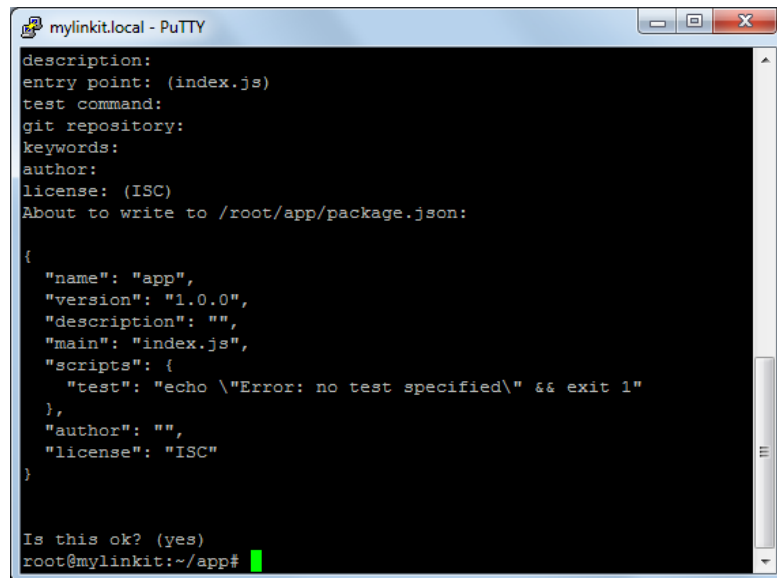

Figure 43 Set up the Node.js application prompt
- After about 10 seconds, you'll be prompted to enter several inputs such as a name for app, version and description etc. as shown in Figure 43. This is a setup process for the Node.js application. For this tutorial, press enter for all questions.